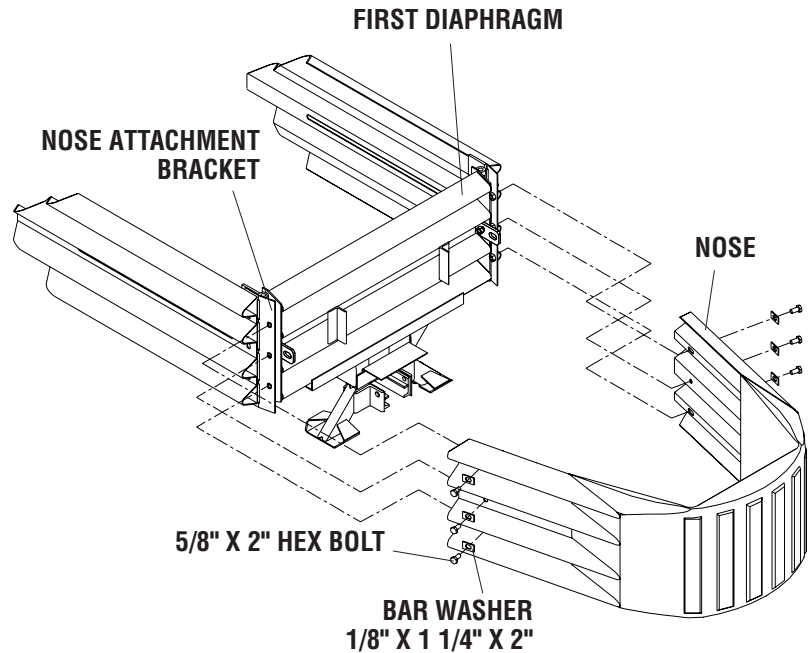

Figure 73
Step 5. (Figure 73) Bolt nose to attachment bracket with 5/8" x 2" hex bolts, and bar washers, 3 places each side as shown.